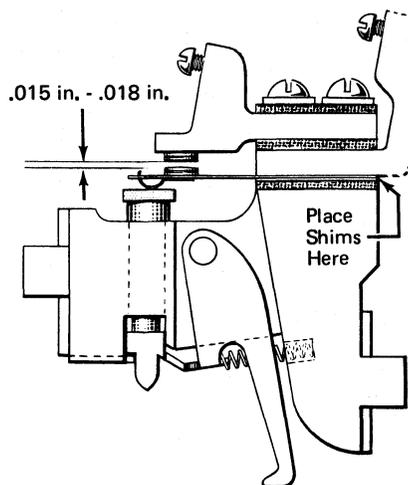

Figure 3-16. Latching Plunger Circuit Breaker—Adjustment 3
3. Place shims between the lower contact terminal block and the contact strap to provide a .015-inch to .018-inch air gap between the contact points (Figure 3-16).